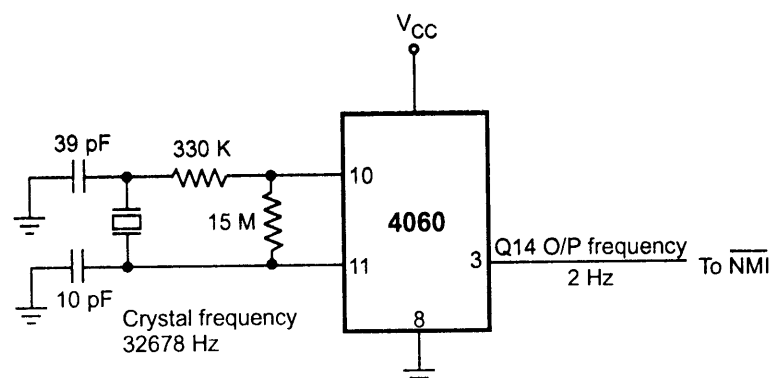

Fig. 6.17 Interrupt generation circuit
**Solution : Hardware :** The Fig. 6.17 shows simple circuit that generates interrupt request after every 0.5 sec.